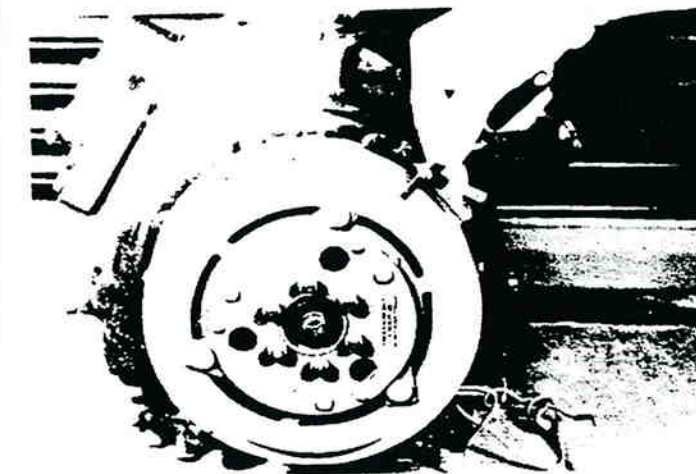

Figure 16-60: Measuring Rotor-to-Armature Air Gap
11. Using a feeler gauge, measure and record the air gap between the rotor face and the armature face. See figure 16-60.